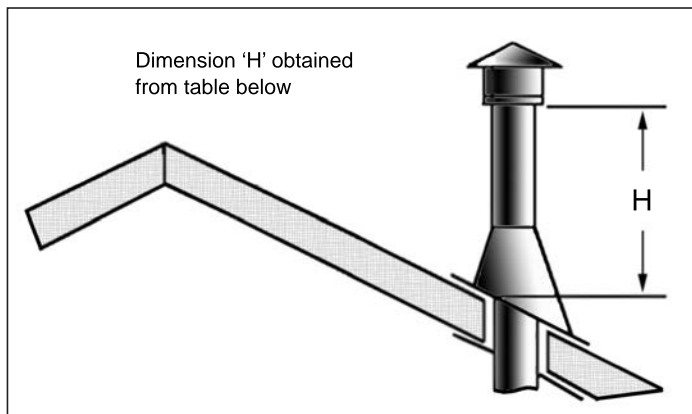

Figure 54: Height of Vertical Termination; Reference Table
- Step 8.** Continue to add pipe sections until the height of the vent cap meets the minimum code requirements. Refer to Figure 54 and Table 7. Note that for steep roof pitches, the vent height must be increased. In high wind conditions, nearby trees, adjoining roof lines, steep pitched roofs, and other similar factors can result in poor draft, or down drafting. In these cases, increasing the vent height may solve the problem.
Table 7: Minimum 'H' for Figure 54